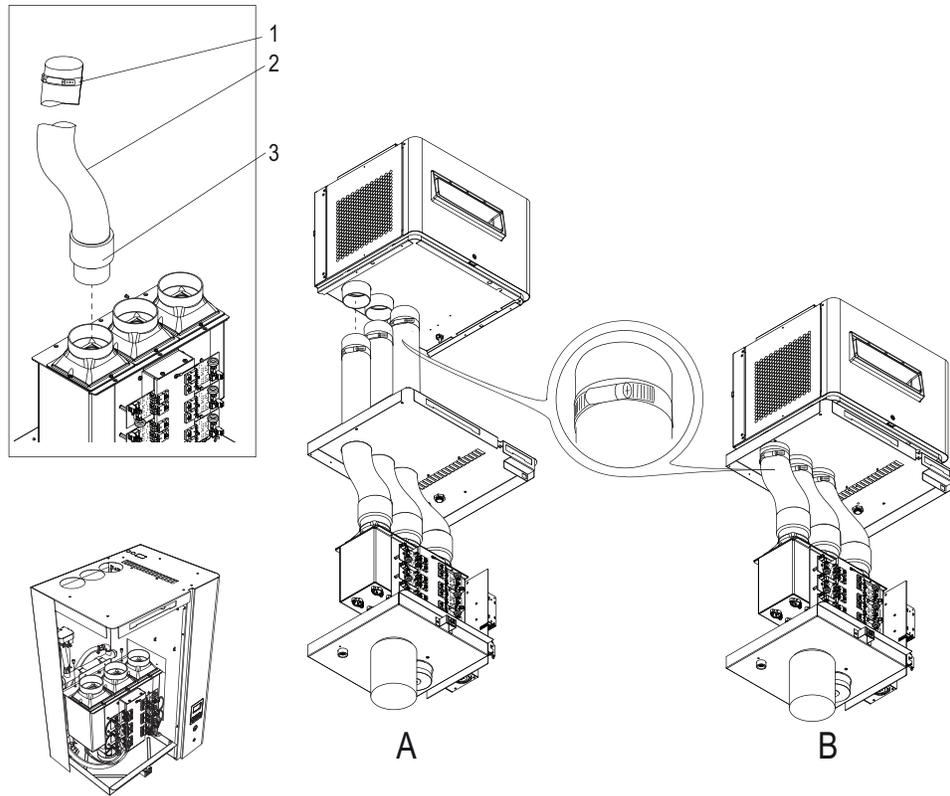

Figure 13 - Flexible Tubes. (A) Remote-Mount Installation. (B) Direct-Mount Installation.
- b. Route the 'connector' end (item 3) of the flexible tube to the top of the water reservoir. Secure the connection by gently inserting the connector and tube into the reservoir, as seen in Figure 13 - on the facing page.